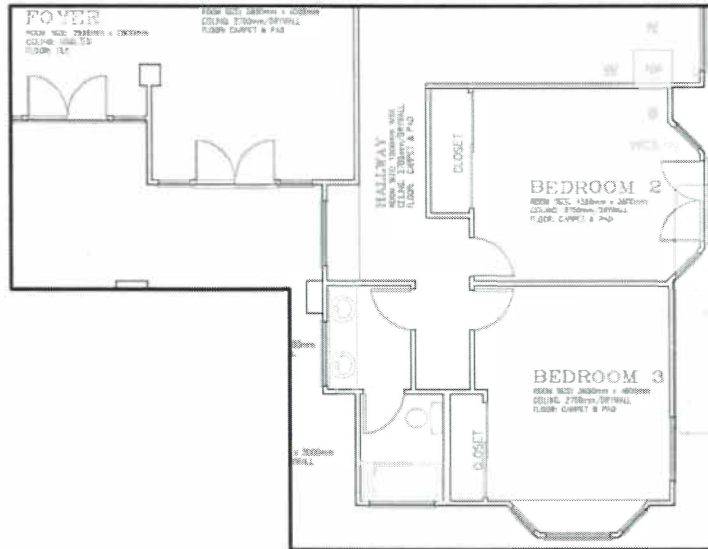

Figure 8–11
3. Select a clipping object (which has already been created) or press <Enter> to draw a polygonal object, as shown in Figure 8–11.